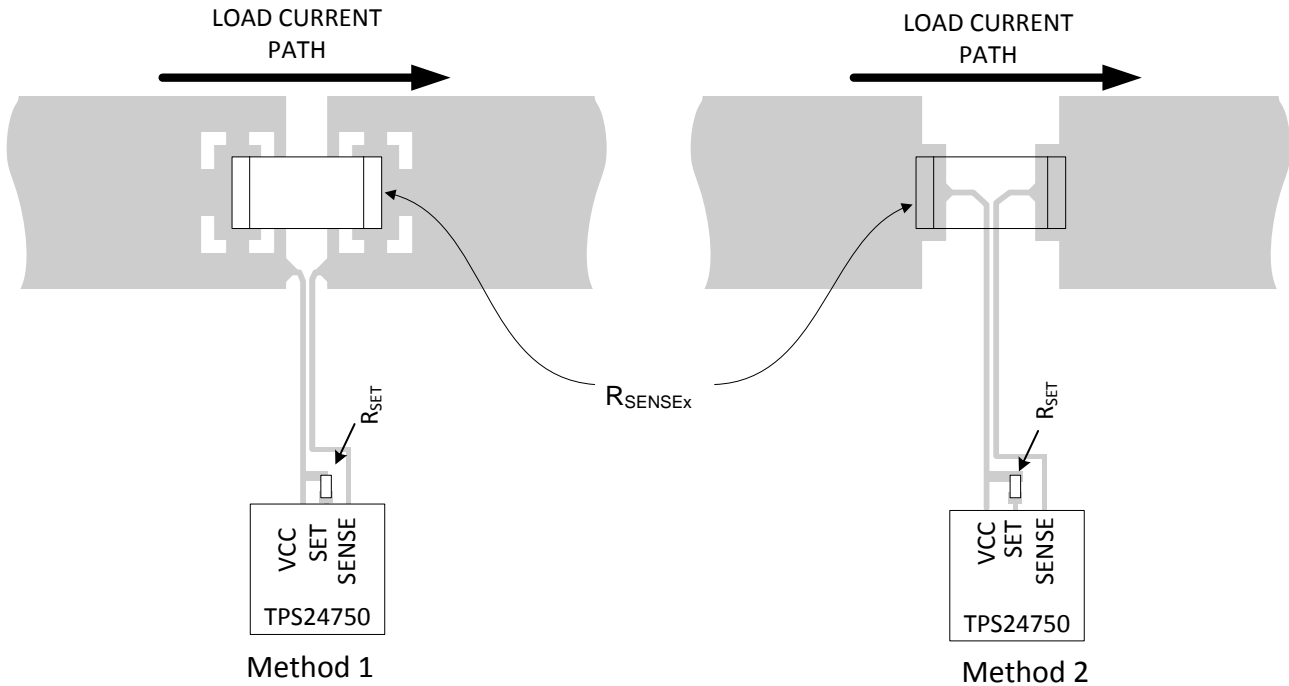

Figure 47. Recommended R_{SENSE} Layout
- Traces to SET and SENSE must be short and run side-by-side to maximize common-mode rejection. Kelvin connections should be used at the points of contact with R_{SENSE} (see Figure 47).